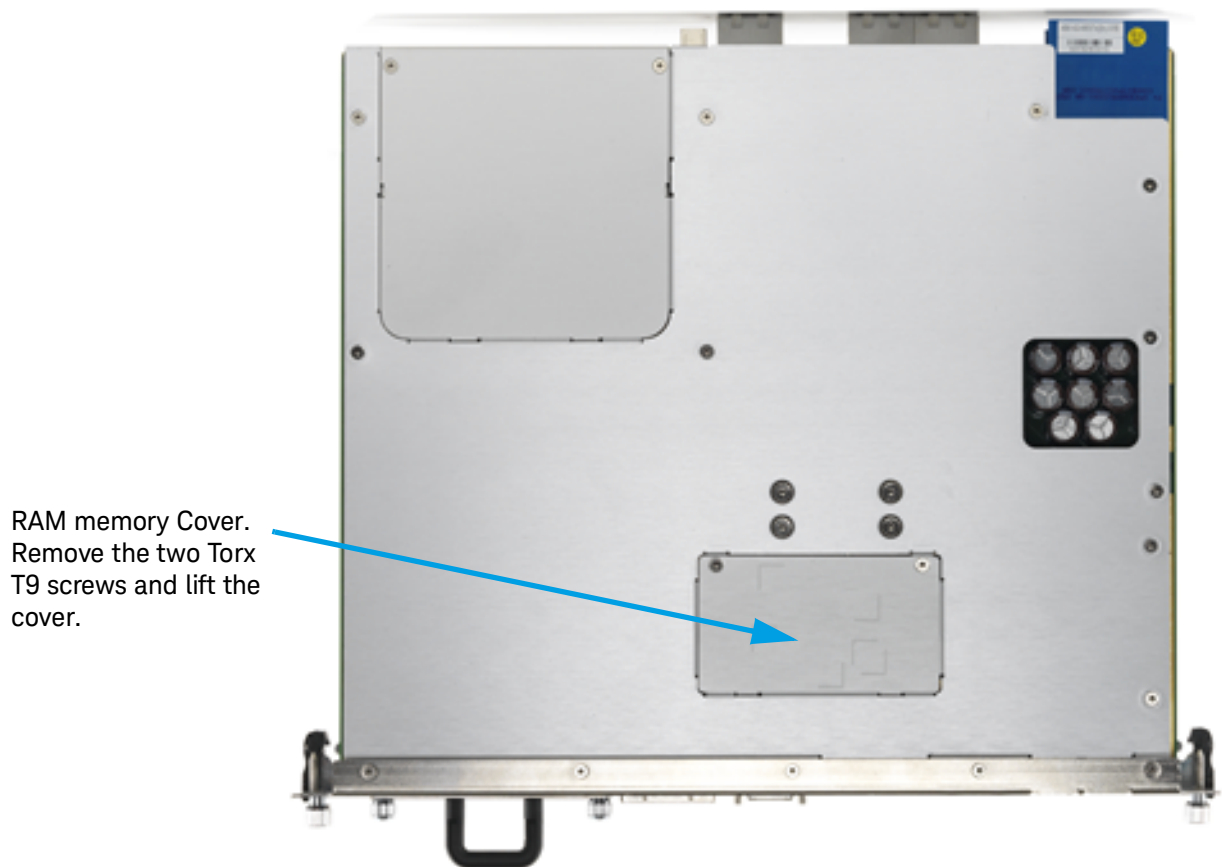

Figure 10 M9537A Memory Modules. Use a T9 Torx Screwdriver to Remove and Replace Screws
- 3 Position the controller, top side up on the workbench as shown in Figure 10.